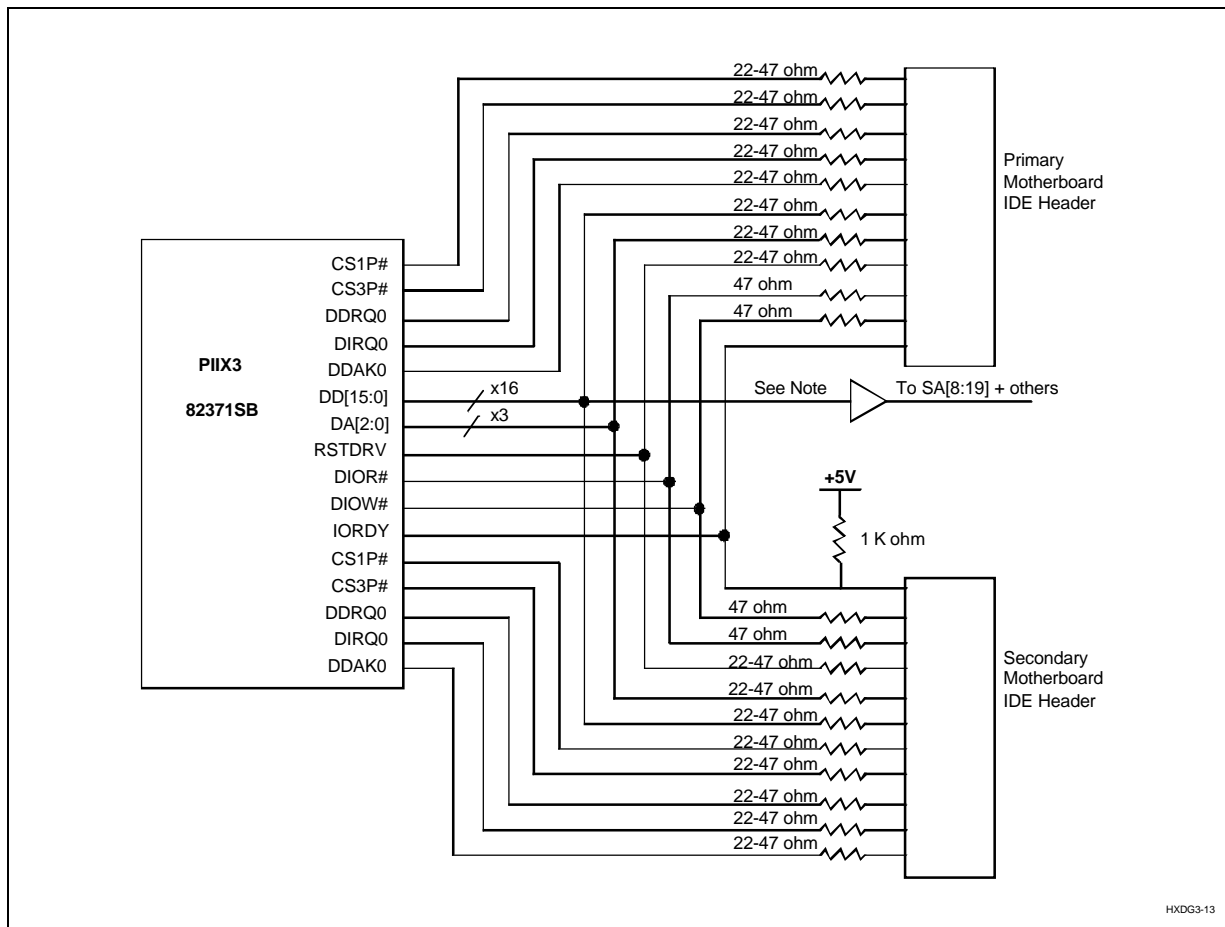

Figure 3-13. Series Resistors Required for IDE Connectors
- **Resistor Location** The termination resistors should be in series and placed as close to the IDE motherboard header as possible if the PIIX < 4 inches from the IDE header. See the following figure (3-13) for a placement example. If the PIIX is > 4 inches from the IDE header, then the resistors should be placed as close as possible to the PIIX and Figure 3-13 does not apply.